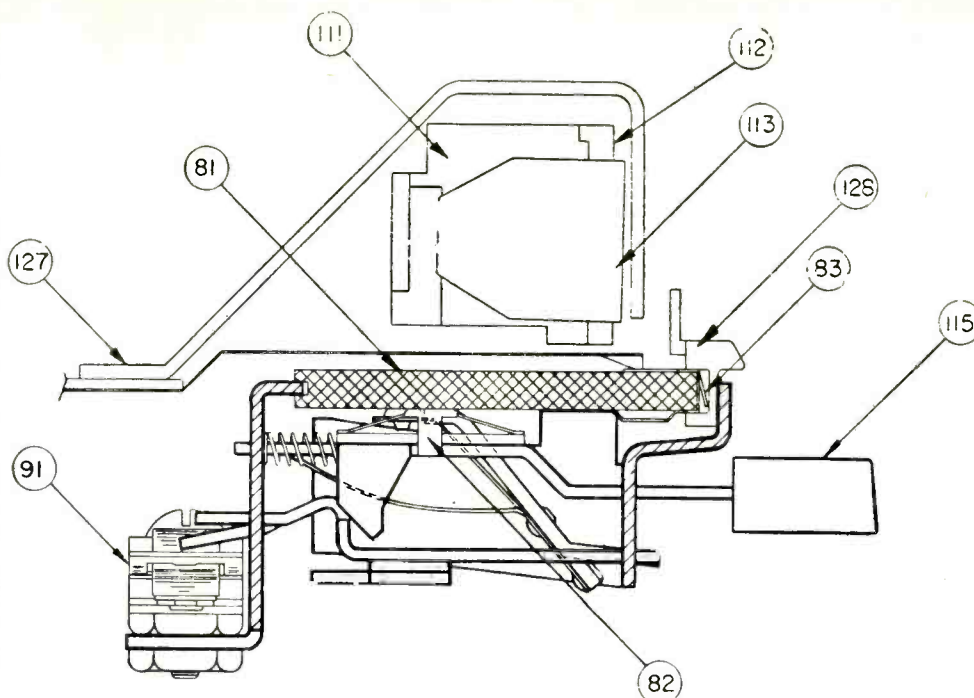

Fig. 4—Tuner button mechanism—cross section.
without touching the selector bar or will roll as soon as the set is turned on, check to see whether the chassis shows signs of water. Many cases in the past have been due to leaky insulation in the selector switch assembly, Fig. 4, item 90. This allows a high resistance leakage to ground, causing the plate relay to actuate, releasing the tuner. This can be checked quickly by removing the plate resistor lead from the switch. If the tuner stops, replace the switch assembly.